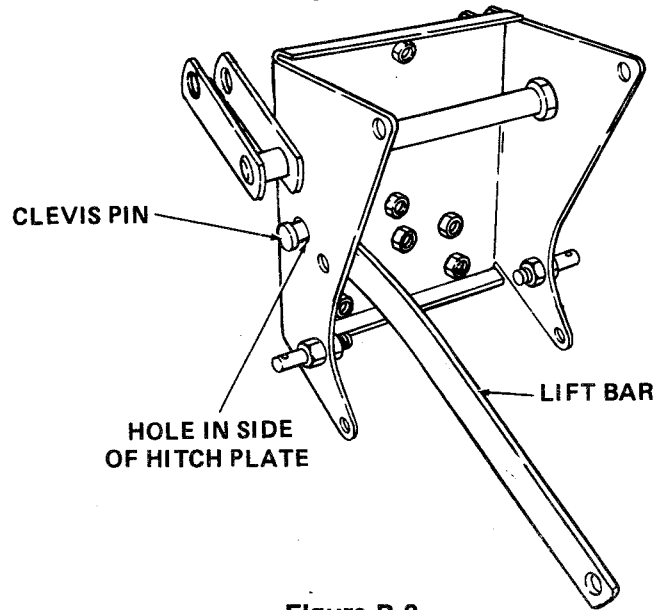

Figure B-8
- c. Align internal arm and lift bar with hole on right side of 3-point hitch plate assembly and insert clevis pin (F). Secure with cotter pin (G). Refer to Figure B-8.